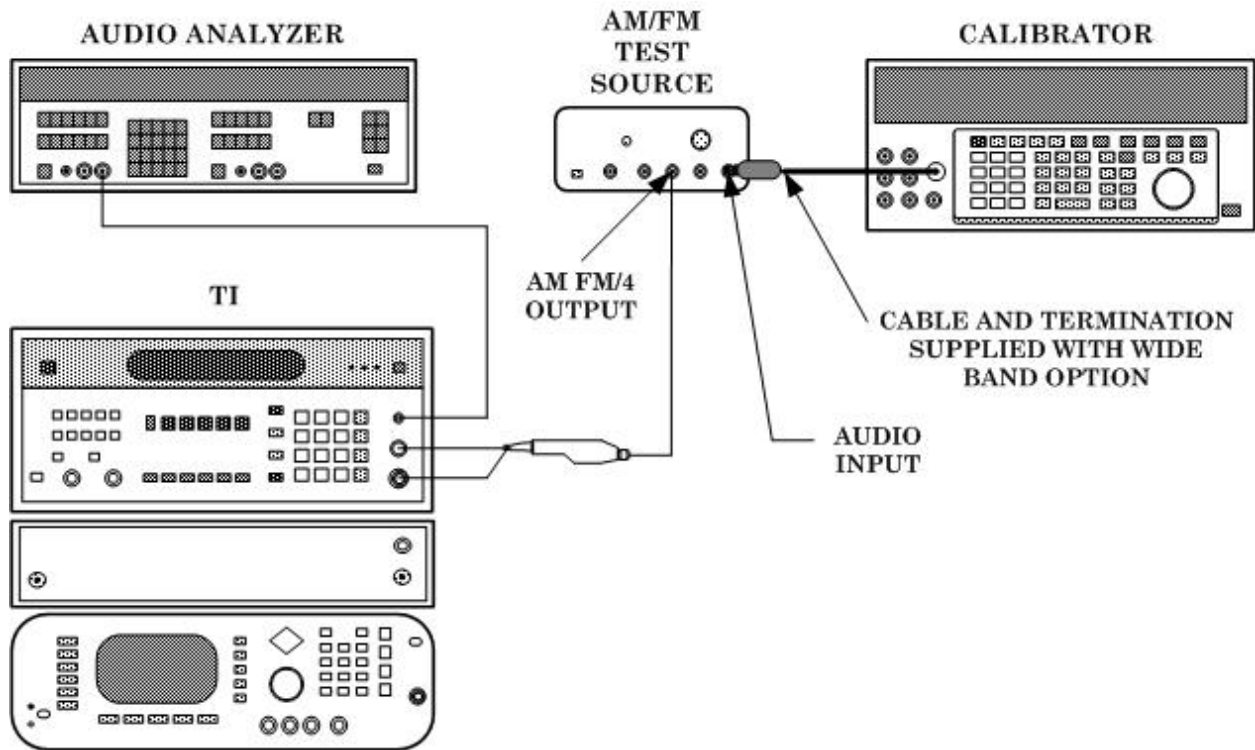

Figure 6. FM equipment setup.
- (8) Allow TI to take at least two readings.
- (9) Record TI indication value as 40 kHz ref for future reference.
- (10) If TI indication is not between 99 and 101 percent, perform **b** below.
- (11) Press TI keys as listed in (a) and (b) below:
- (12) Allow TI to take at least two readings.
- (13) Record TI indication value as 400 kHz ref for future reference.
- (14) If TI indication is not between 99 and 101 percent, perform **b** below.
- (15) Set AM/FM test source **TEST MODE** switch to **FM.**
- (16) Connect equipment as shown in figure 6 below.
- (17) Set calibrator for a wideband output frequency of 10 kHz at an amplitude of 0.14354V.
- (18) Press TI keys as listed in (a) and (b) below:
- (19) Adjust AM/FM test source **CARRIER FREQUENCY TUNE** for a TI indication of approximately 100 MHz.
- (20) Press TI keys as listed in (a) through (f) below: